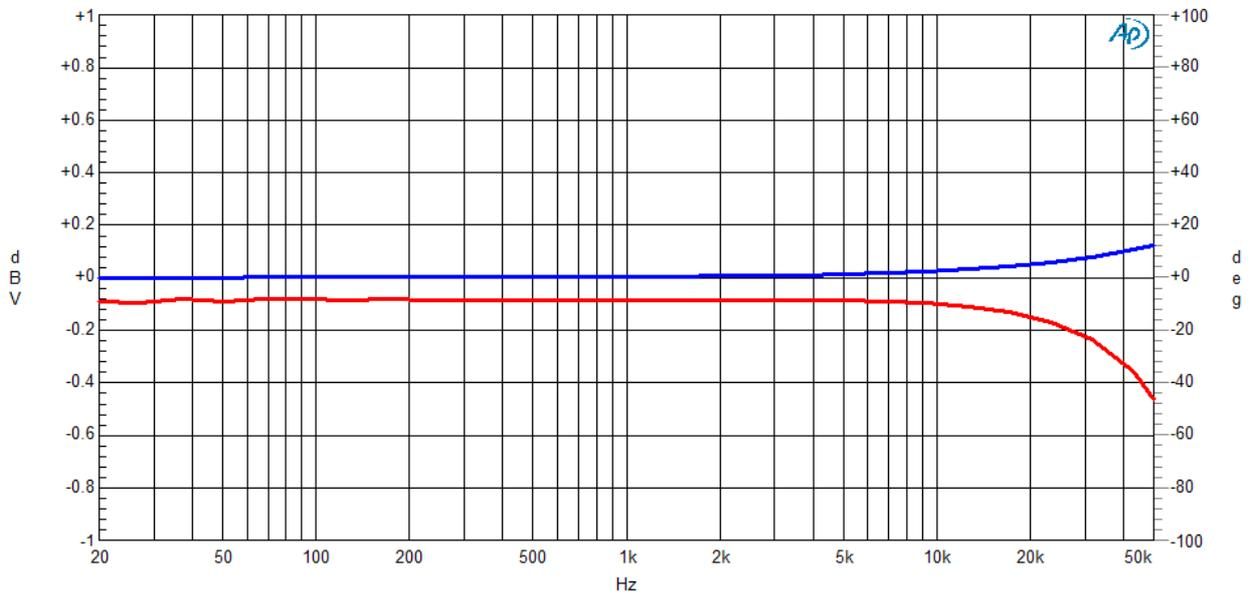

Fig.6 Frequency (red) and phase (blue) response at 1V and 10k load
3. Frequency and phase flatness over frequency. This is shown in a single graph, figure 6. Measured with 1V input and 10k load. Red trace is frequency response magnitude, blue curve is frequency response phase.